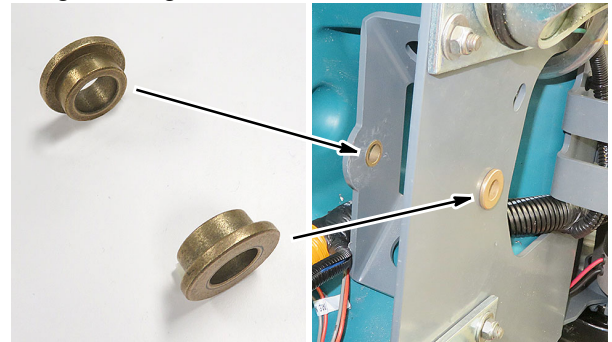

Fig. 7
- Insert the two flange bushings from kit into the enlarged holes as shown (Figure 7). Position the flanges facing outward.